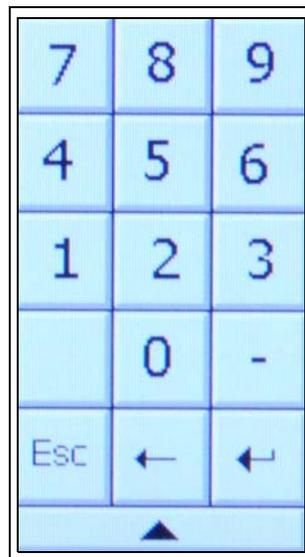

Figure 4U
2. Press the button under the “Homing Interval” label. A number keypad will display. (See Figure 4U.)